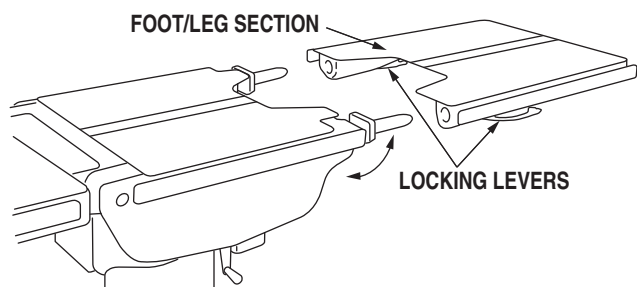

Figure 2-22. Leg Section Release Levers
a. To remove the leg section, position the table top height to elbow height, and simultaneously depress both release levers and pull the leg section out. See figure 2-22. Press the LEG-DOWN button on the pendant control to position the leg section attachment pins down and out of the way.